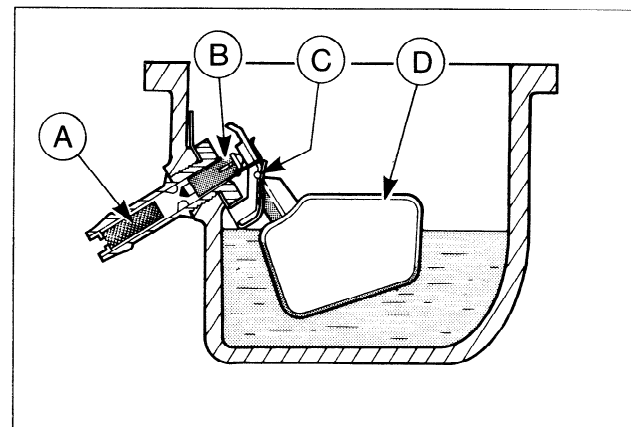

FIG. 7 Fuel Input System
8. Install throttle shaft and lever assembly (9) in throttle body and rotate shaft to open position.
9. Insert throttle plate (42) in milled slot of shaft. Align holes in plate with holes in shaft and start throttle plate screws (43). Make sure throttle plate is in same position as before disassembly.
11. On carburetors which include throttle lever (38), assemble lever on shaft in same position lever was in before disassembly and attach to shaft with lockwasher (37) and nut (36).
12. With throttle plate fully closed, turn throttle stop screw (6) in to the point of initial contact with the throttle stop; then turn stop screw IN (clockwise) one-half to three-quarters of a turn as a preliminary idle speed setting.
13. Install idle adjusting needle (11) and spring (10). Turn needle in lightly against its seat and then back needle OUT (counterclockwise) one full turn as a preliminary idle adjustment.
14. Install fuel valve seat (21) and fiber washer (20), using C161-85 wrench.
15. Install main discharge jet (35), using a small screwdriver.
16. Install fuel valve needle (21) in seat and position float assembly in hinge bracket. Insert tapered end of float axle (22) into float bracket at side opposite slot in bracket. Push float axle through slotted end of the bracket until centered in bracket, using handle of screwdriver.
17. To insure correct fuel level in float chamber, check distance "A" from top center of float bodies to machined surface (no gasket), see Figure 7. This dimension should be as follows:
Fuel input is via an inlet filter, located in the inlet tube, a conventional needle valve and a float located in the float chamber (Figure 7).